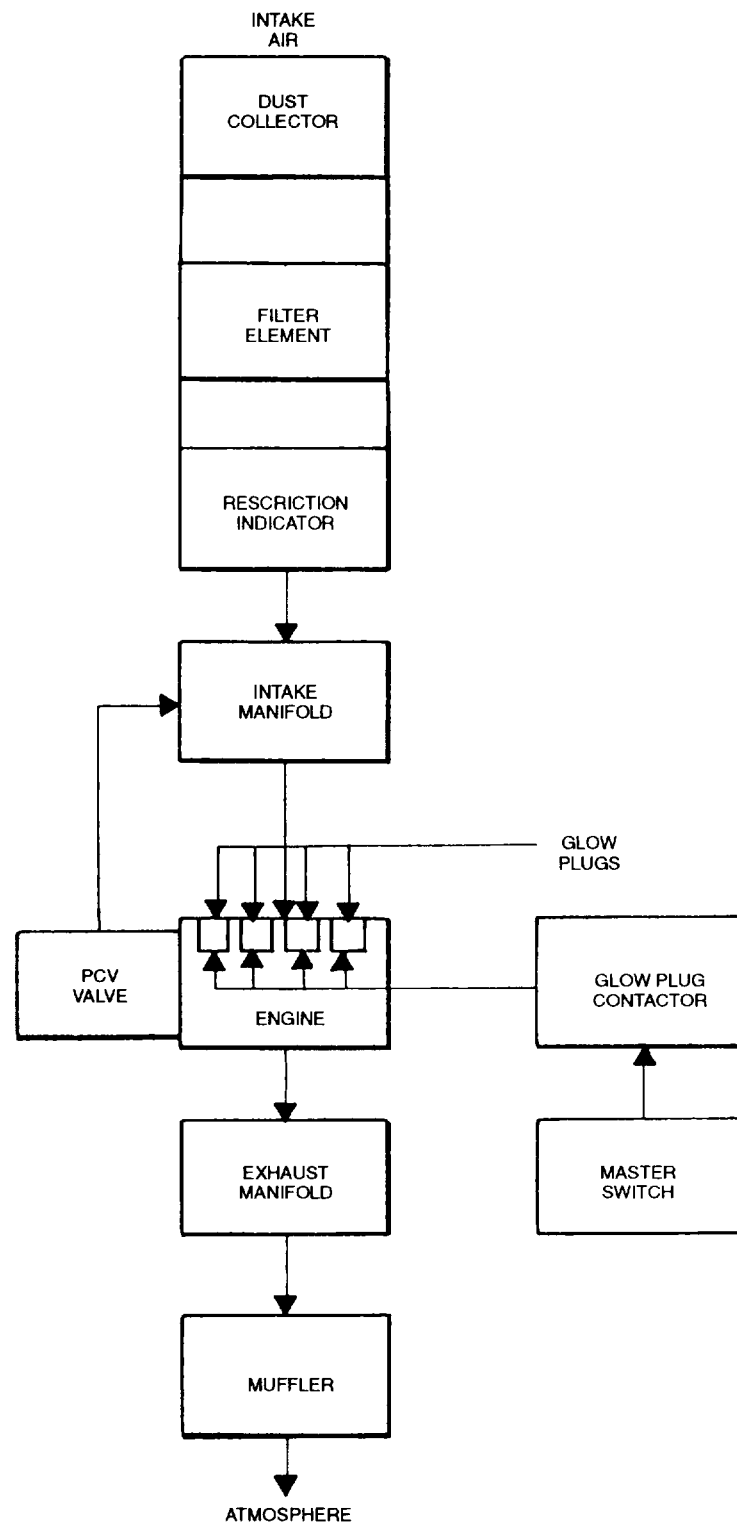

FIGURE 1-7. Engine Air Intake and Exhaust System
1.12.6.1 The Engine Air Intake and Exhaust System (FIGURE 1-7) consists of an air cleaner assembly, intake manifold, four glow plugs, glow plug contactor, positive crankcase ventilation (PCV) valve, exhaust manifold, and muffler. The air cleaner assembly includes a dust collector, filter element, dust evacuator valve, and a restriction indicator.